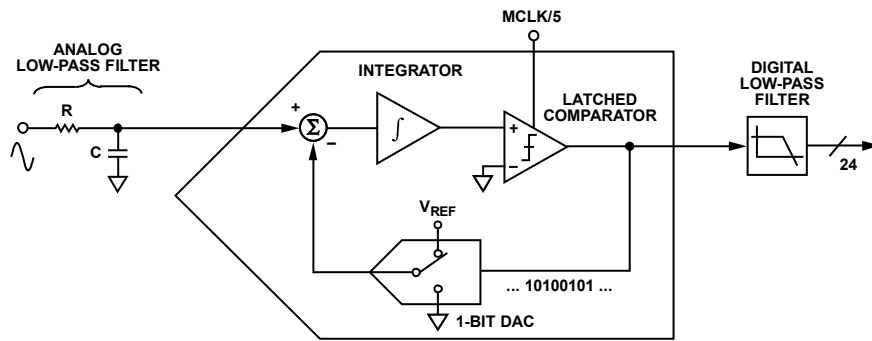
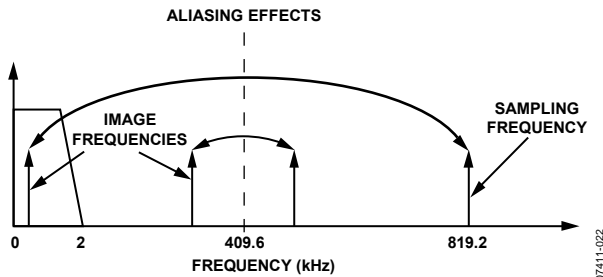

Figure 41. First-Order  $\Sigma$ - $\Delta$  ADC
Figure 42. ADC and Signal Processing in Current Channel Outline Dimensions
For simplicity, the block diagram in Figure 41 shows a first-order  $\Sigma$ - $\Delta$  ADC. The converter is made up of the  $\Sigma$ - $\Delta$  modulator and the digital low-pass filter (LPF).
Figure 41 also shows an analog LPF (RC) on the input to the modulator. This filter is present to prevent aliasing, an artifact of all sampled systems. Aliasing means that frequency components in the input signal to the ADC, which are higher than half the sampling rate of the ADC, appear in the sampled signal at a frequency below half the sampling rate. Figure 42 illustrates the effect. Frequency components (the black arrows) above half the sampling frequency (also known as the Nyquist frequency, that is, 409.6 kHz) are imaged or folded back down below 409.6 kHz. This happens with all ADCs, regardless of the architecture. In Figure 42, only frequencies near the sampling frequency (819.2 kHz) move into the band of interest for metering (40 Hz to 2 kHz). This allows the use of a very simple LPF to attenuate high frequency (at approximately 819.2 kHz) noise and prevents distortion in the band of interest.
For conventional current sensors, a simple RC filter (single-pole LPF) with a corner frequency of 10 kHz produces an attenuation of approximately 40 dB at 819.2 kHz (see Figure 42). The 20 dB per decade attenuation is usually sufficient to eliminate the effects of aliasing for conventional current sensors. However, for a di/dt sensor such as a Rogowski coil, the sensor has a 20 dB per decade gain. This neutralizes the -20 dB per decade attenuation produced by one simple LPF. Therefore, when using a di/dt sensor, care should be taken to offset the 20 dB per decade gain. One simple approach is to cascade two RC filters to produce the -40 dB per decade attenuation needed.